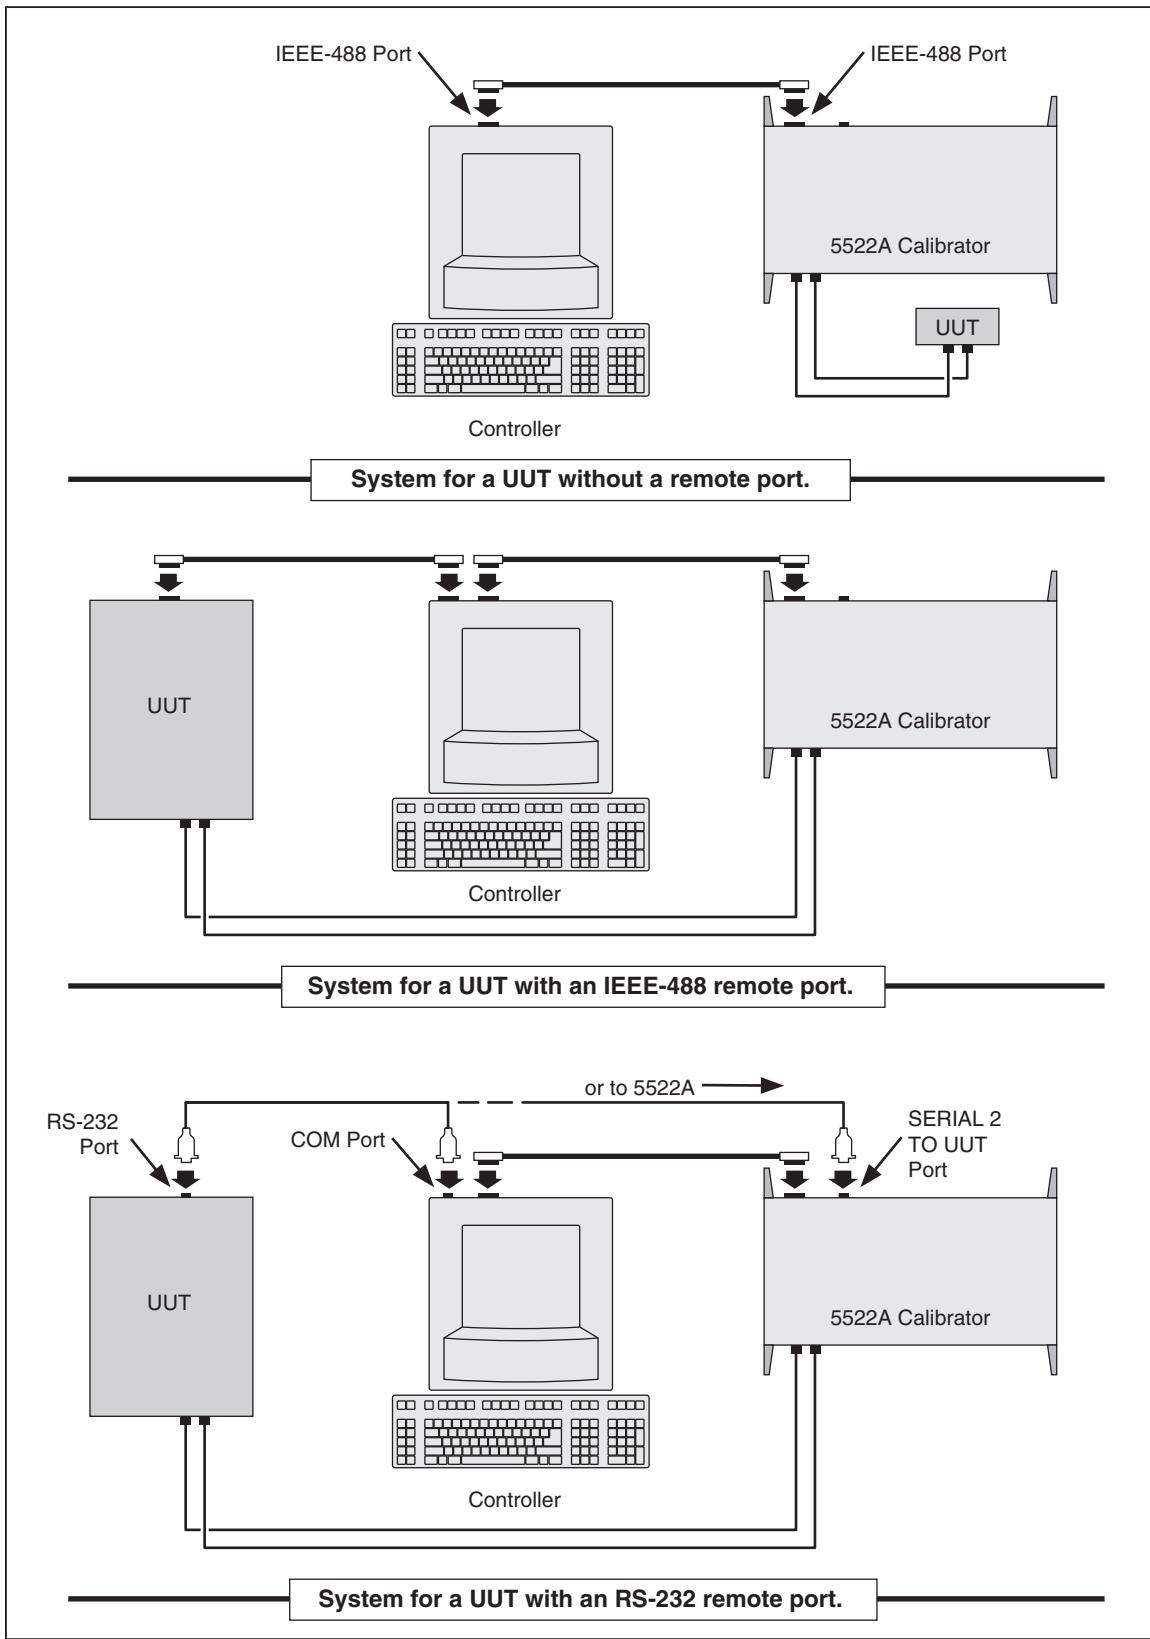

Figure 5-1. Typical IEEE-488 Remote Control Connections
IEEE-488 The IEEE-488 parallel port is usually used in larger control and calibration systems. An IEEE-488 system is more costly to set up, but has the ability to serve multiple Calibrators and multiple UUTs. Also, parallel system throughput is faster than serial system throughput. The controller in an IEEE-488 system is typically a MS-DOS compatible personal computer (PC) equipped with one or more IEEE-488 ports. You can write your own computer programs for system operation using the command set, or you can purchase optional Fluke calibration software MET/CAL or 5500/CAL, and property management software MET/TRACK. Typical IEEE-488 configurations are shown in Figure 5-1. The configuration showing the PC with two IEEE-488 ports is used with MET/CAL, which prefers UUTs on a separate IEEE-488 port. You can also “piggy-back” the connectors on a single IEEE-488 port.